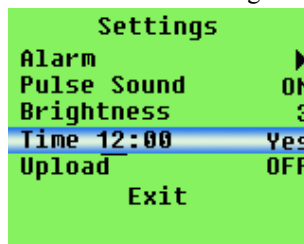

Figure 10.
- b. When the "Start" is displayed on the menu, if the memory still has the former data in storage, the "Do you really want to recover the memory" dialog box will be displayed when pressing the "menu" button, then press the "up" button or "down" button to choose setting, then press the "menu" button to confirm setting, the dialog box will be displayed as figure 10: It needs to set the starting time for data storage by users, users can change the setting value by pressing the "up" button or "down" button, and confirm the setting value by pressing the "menu" button, the black cursor will move to the next place after setting. When the black cursor moves to "Yes" (store) or "No" (don't store), press the "up" button or "down" button to choose setting, then press the "menu" button to confirm setting.